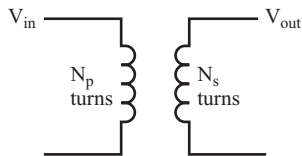

FIGURE 10.6
- 6** Figure 10.6 shows the number of turns in the primary and secondary coils as N_p and N_s .